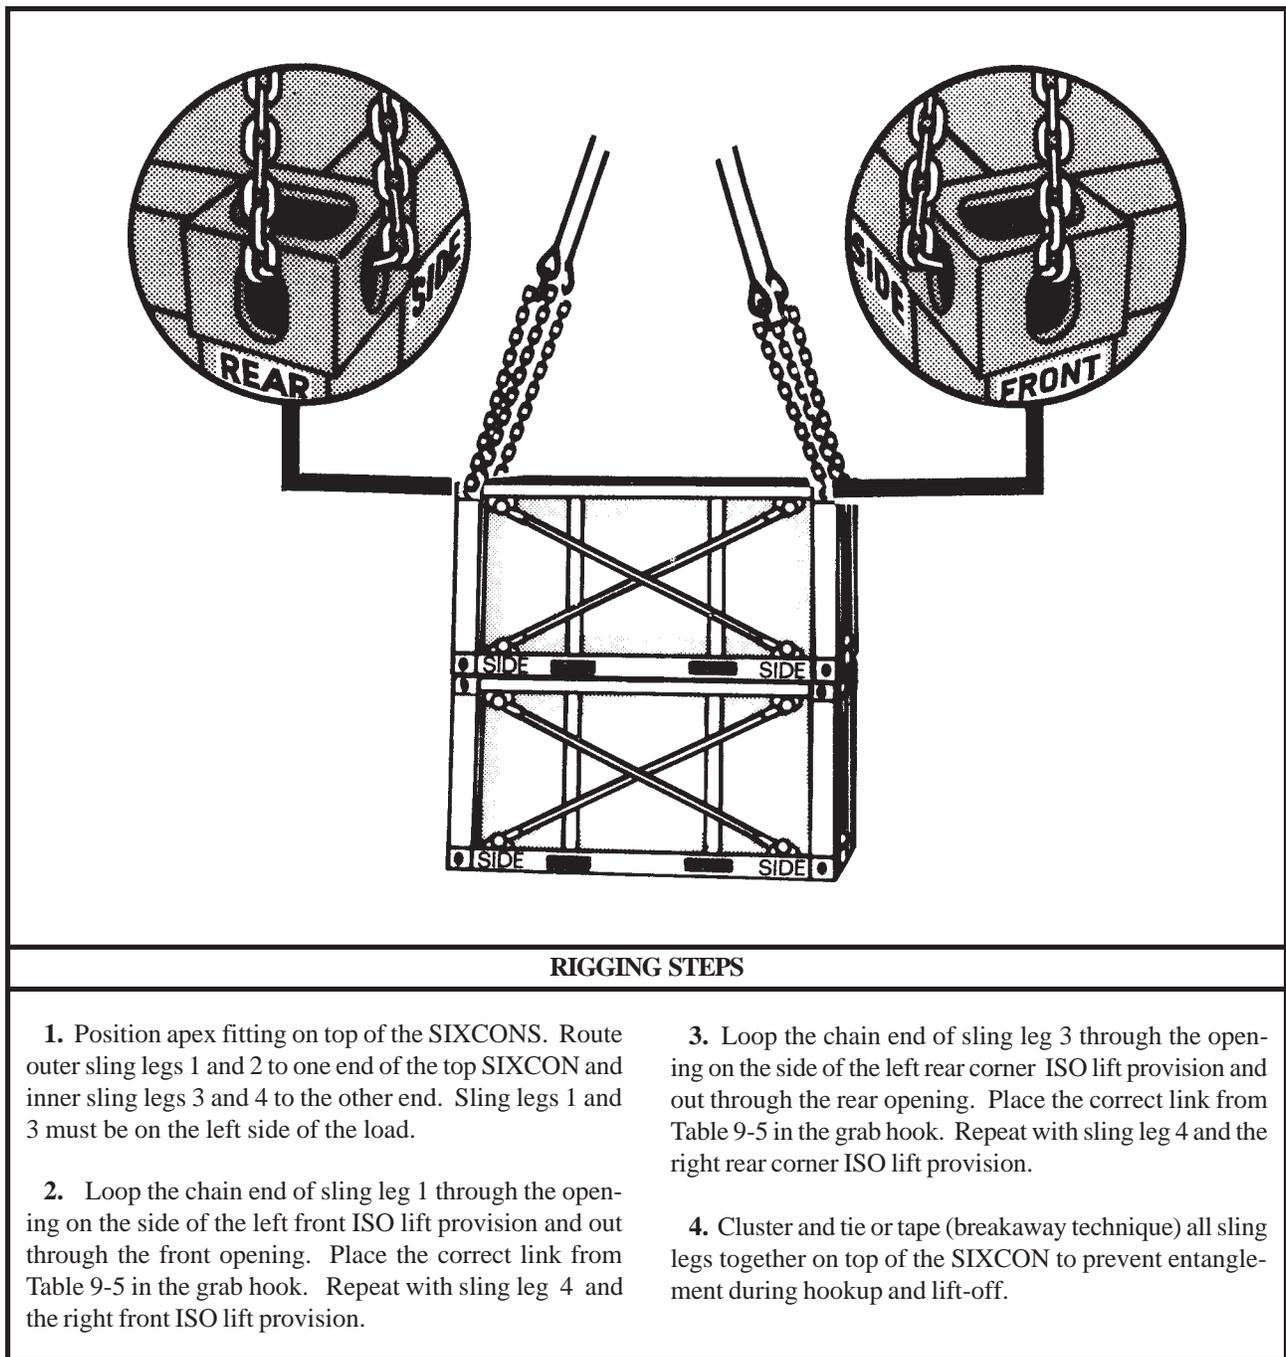

Figure 9-5. Two Storage Modules, Fuel/Water, Six Compartment Container (SIXCON), (Stacked)
(2) Rigging. Rig the load according to the steps in Figure 9-5.
(3) Hookup. The hookup team stands on top of the SIXCONs. The static wand person discharges the static electricity with the static wand. The hookup person places the apex fitting onto the aircraft cargo hook. The hookup team then moves clear of the load but remains close to the load as the helicopter removes slack from the sling legs. When successful hookup is assured, the hookup team quickly exits the area underneath the helicopter to the designated rendezvous point.
(4) Derigging. Derigging is the reverse of the preparation and rigging procedures in steps d (1) and d (2).